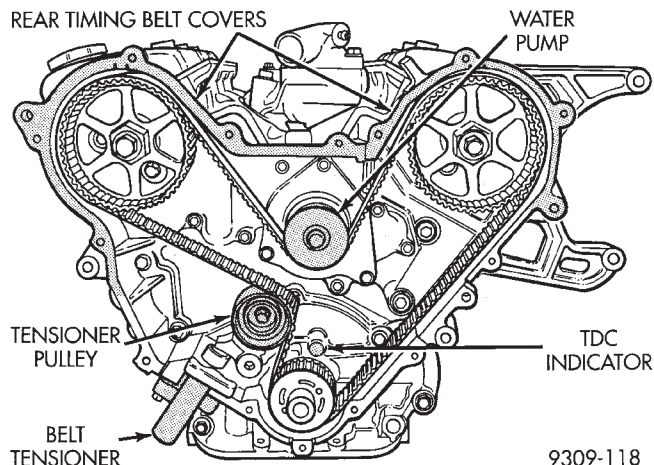

Fig. 67 Timing Belt System
(3) Remove the timing belt tensioner (Fig. 67) and remove timing belt.